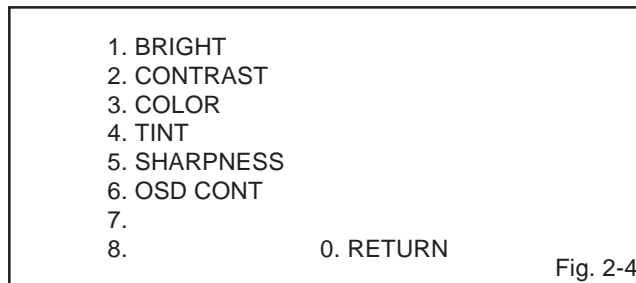

Fig. 2-4
3. Activate the adjustment mode display of **Fig. 2-1** and press the channel button **(4)** on the remote control. The **Fig. 2-4** appears on the display.